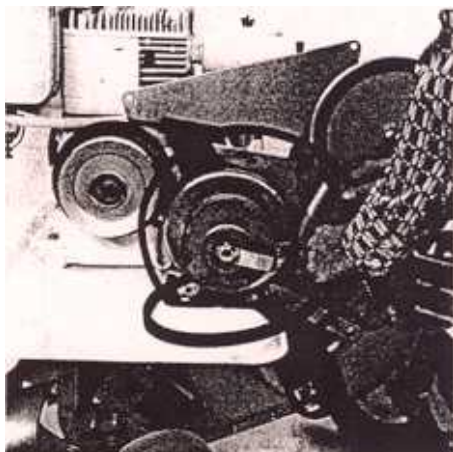

Figure 15
- 4 Remove the belts from the variable speed pulley. It is not necessary to remove the belt guard on the variable speed pulley. (See figure 15.)